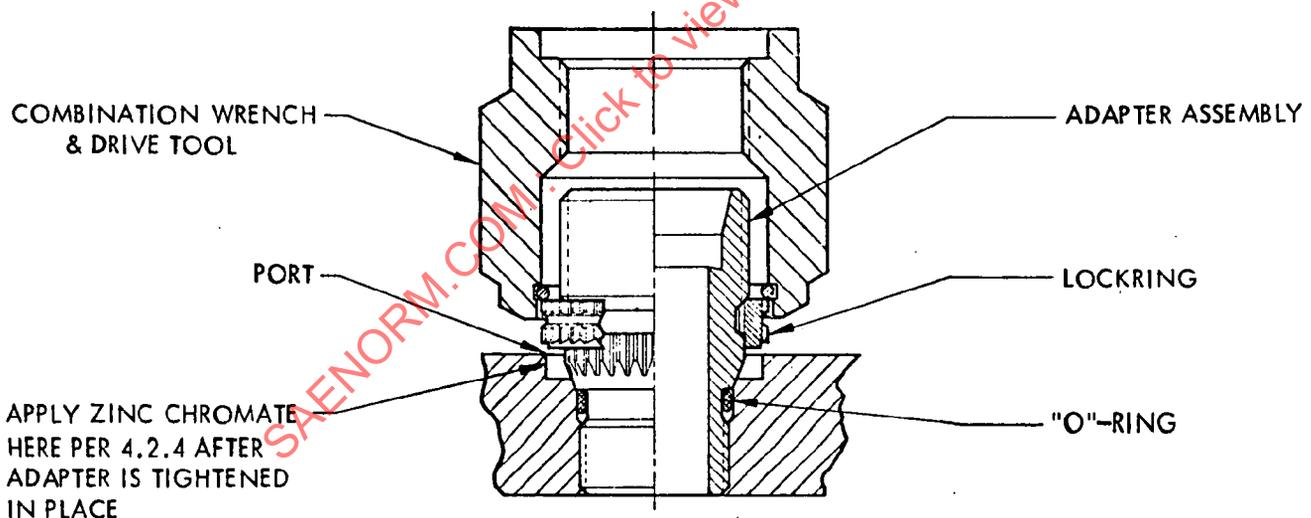

FIGURE 3
- 4.2.3. Using the applicable combination wrench and drive tool in Table II, engage the serrations of the tool with those on the external serrations of the adapter locking per Figure 3. Place a torque wrench of the proper size over the hex of the wrench and apply a torque equal to the minimum value specified in Table II. Note the relationship of the serrations of the locking with respect to the prebroached serrations in the port. If they match, proceed to 4.2.4. If the serrations do not match the prebroached serrations in the port, continue to slowly torque the adapter toward the maximum value allowed in Table II until the serrations of the locking match the boss serrations. This will normally take between 3° and 8° of turning and the maximum value need not be reached if the serrations align themselves prior to that value. Do not exceed maximum torque values.